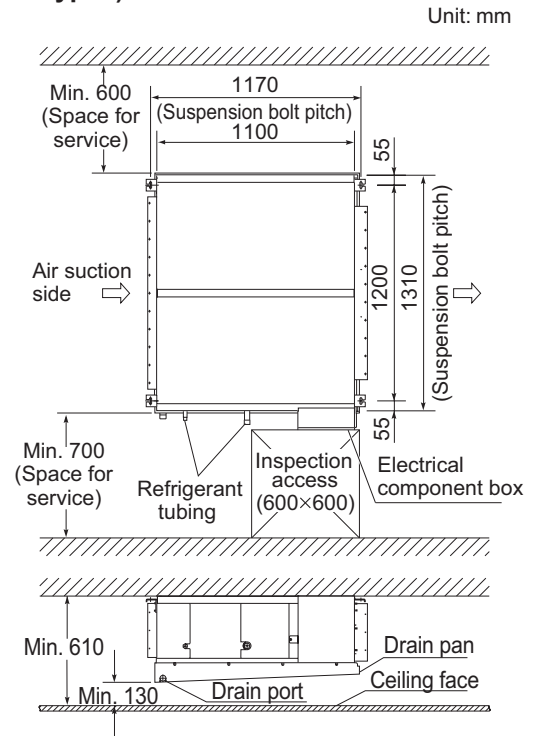

Fig. 1-19
- The minimum space for installation and service is shown in Fig. 1-19.
- (1) When placing the unit inside the ceiling, determine the pitch of the suspension bolts referring to the dimensional data given previously. (Figs. 1-19 and 1-20)